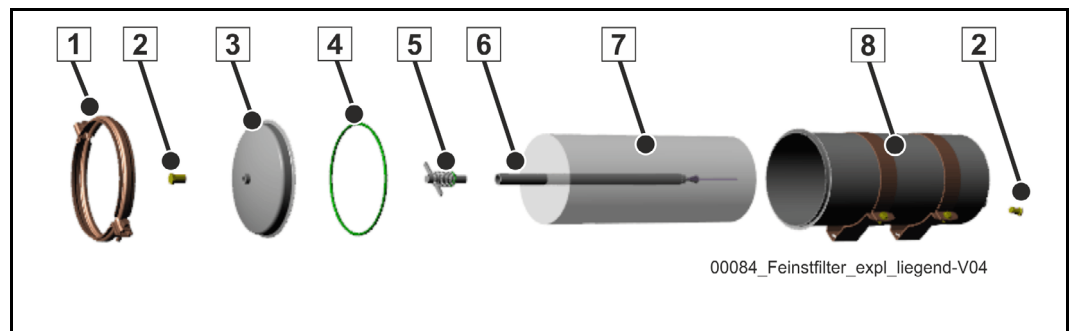

Fig. 296 Design of the ultra-fine filter (filter shown horizontally)
Caption (Fig. 296)
3. Open the drain screw (1) (**Fig. 296**) and drain the filter housing completely into a container placed below it.
4. Carefully remove the screw connection on the cover retaining clamp (1) (**Fig. 296**). Only remove the cover (3) if the oil level has gone down as the oil will overflow otherwise.
5. Remove the cover retaining clamp (1) and the filter cover (3) (**Fig. 296**).
6. Loosen and remove the retaining bolt (5) for the filter element (7). Replacing the retaining bolt seal is part of replacing the filter!
7. Pull the filter element (7) off of the drain pipe (6) using the stirrups provided for that purpose.
9. Remove the coarse contamination in the filter housing (8) (**Fig. 296**).
13. Inspect the cover seal (4) for damage and replace it if necessary.